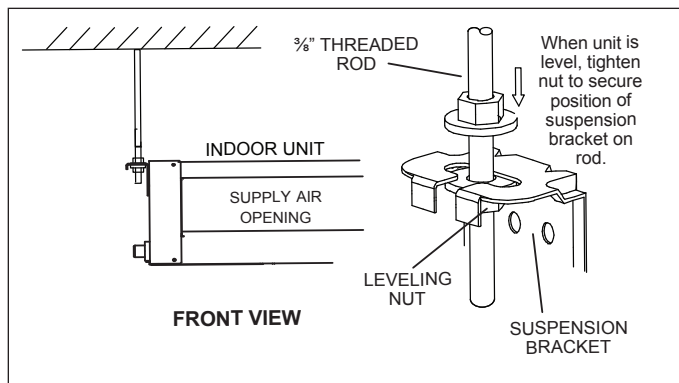

Figure 7. Suspending Hardware
3. Slide one nut and one washer onto each threaded rod. Use electrical tape to keep the washer from falling off. Position the nuts slightly above the final resting place of the four suspension brackets. See "Figure 7. Suspending Hardware"